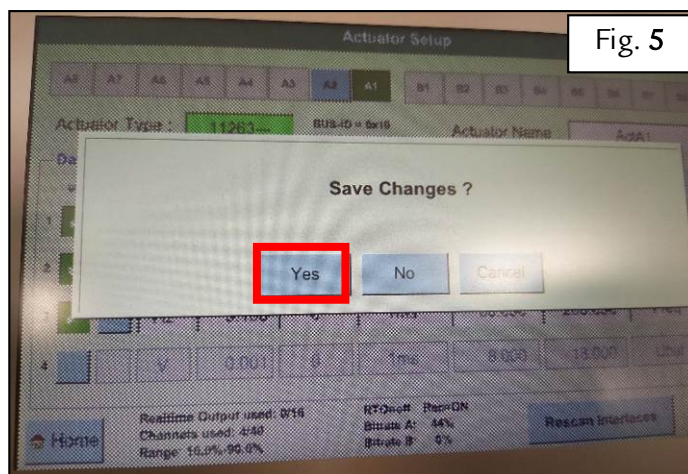

Fig. 5
- Press the “HOME” button and then confirm you want to save the settings by pressing “Yes” – Fig.5.